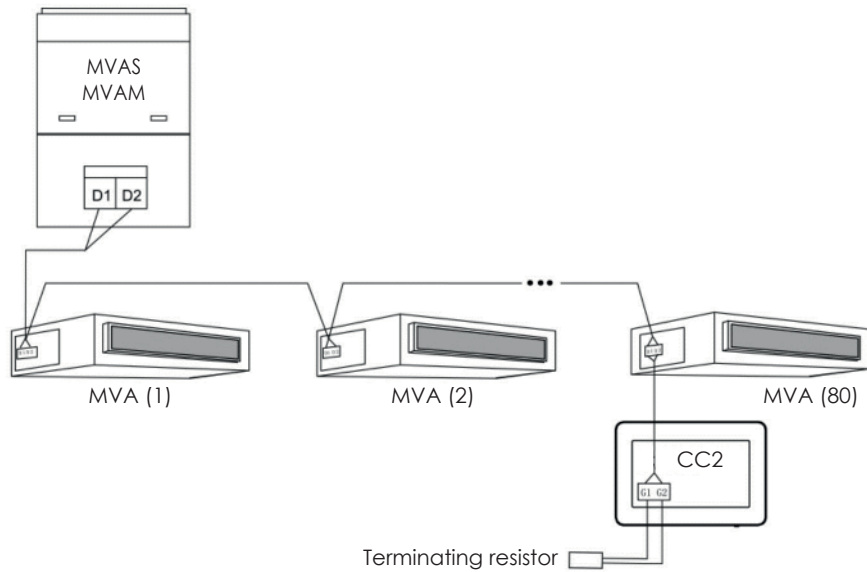

Fig. 3.4 Centralized controller connected to the internal network
2. If the centralized controller has to be connected to the network of the indoor unit, carry out the connections according to fig. 3.4. The controller can connect to any indoor unit in series, i.e. by connecting ports G1 and G2 of the controller with ports D1 and D2 in correspondence to the communication cables. When the controller is connected to the terminal unit of the internal network, a corresponding resistor with the communication cables on the G1 and G2 ports must be added.